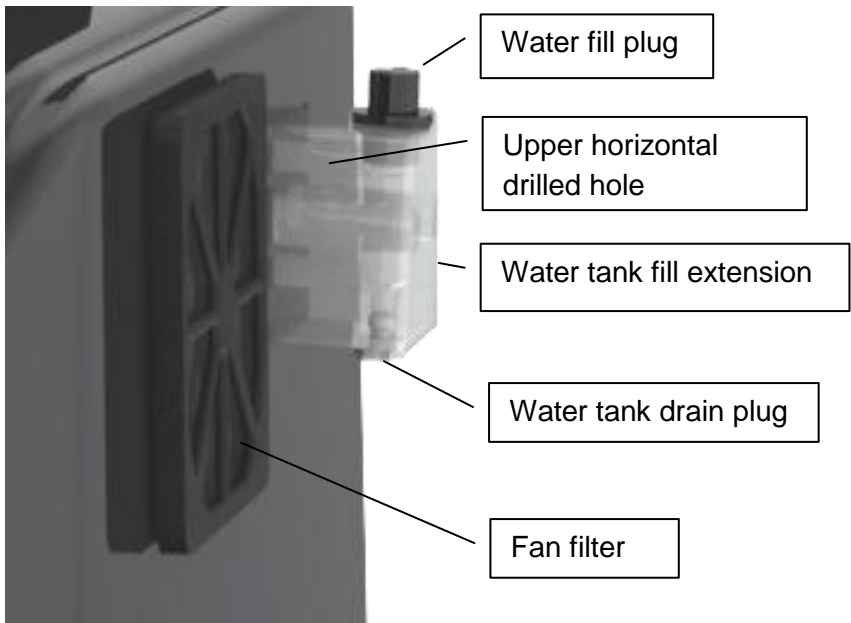

Figure 4: Tank fill extension
Figure 4 shows three different isotherm curves of spray-dried milk powder with different maximum water activities and different sorption histories. The boundary isotherm with a 0.80 a_w maximum experienced a phase change at 0.43 a_w , indicated by a sharp inflection point in the curve. The desorption curve for this isotherm appears to show hysteresis, especially below a water activity of 0.60. However, an isotherm, run on a sample wetted to a maximum water activity below the phase change, exhibits very little hysteresis. The lack of hysteresis in this isotherm indicates that the matrix changes that occur at 0.43 a_w are completely responsible for the apparent hysteresis.
Figure 4. Moisture sorption isotherms for spray-dried milk powder showing a change in hysteresis due to a phase change at 0.43 a_w . When the isotherm is ended prior to the phase change at 0.43 a_w (■), there is little hysteresis. When the isotherm is ended above the phase change (◆), there is apparent, but not actual hysteresis due to the phase change. Subsequent isotherms run on the sample after experiencing a phase transition (▲) do not show an inflection point, are repeatable, and exhibit only small levels of hysteresis.
7. Fill the water tank. Remove the black plug on the clear plastic tank fill extension located on the back right of the VSA. (see *Figure 4: Tank fill extension*). Fill the tank with steam distilled water until full to top. Reinstall the black plug once finished.
8. Figure 4 shows the location of a filter that will need to be removed from time to time when dust builds up on it. The housing around the filter is a snap on housing that is easily removed.